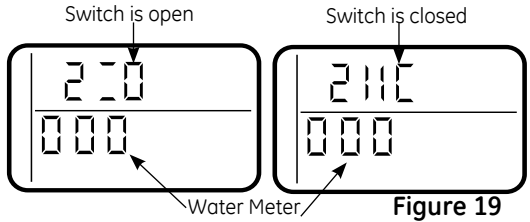

Figure 19
1. Press and hold **MODE/SET** for 3 seconds until the Set low salt alarm display appears, next press the **MODE/SET** button five additional times until "000" shows in the display, then release, see Figure 19.
3. Symbols in the display indicate POSITION switch operation, see Figure 19